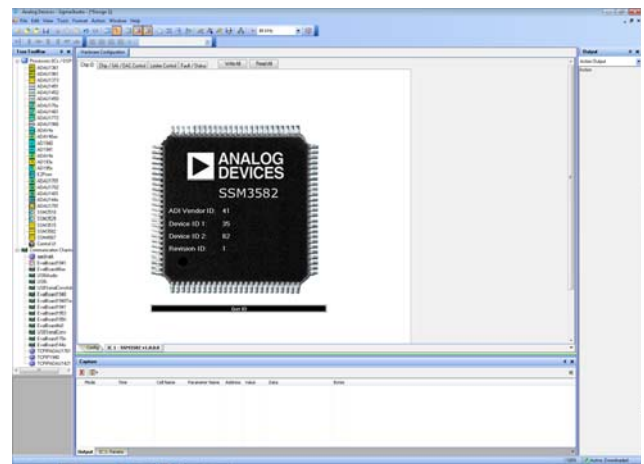

Figure 6. SSM3582 Device Setup
13. Click the **IC-1SSM3582** tab. When clicking the **GetID** button, the 3582 with die revision numbers appears in the **Capture** window (see Figure 6).